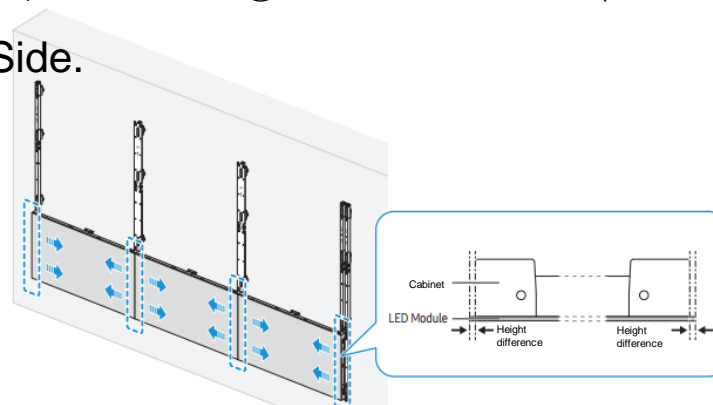

Fig.7 Checking height difference
- ⑥ After installing the cabinets, push the LED modules toward the middle and check the height difference between the cabinets on both ends and the LED modules. (See Fig.7.)